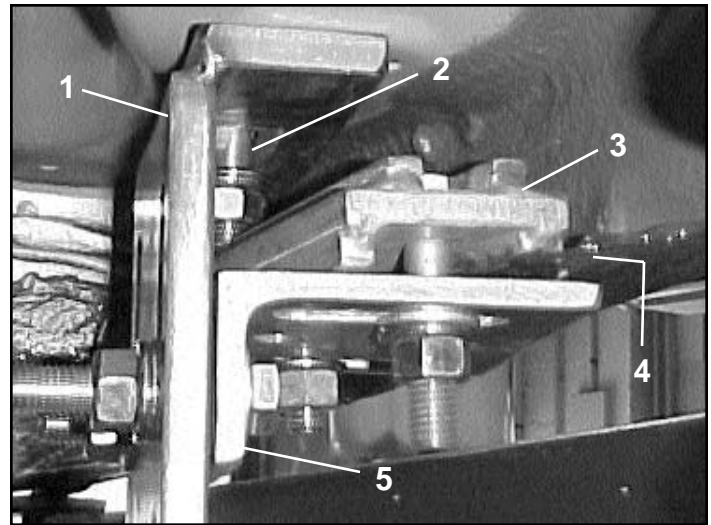

Figure 6
- b. Attach pinchweld clamp to L Bracket using 14mm bolts and nuts and 1/2 Series W washers. (See Figure 6.) Then secure the assembly to vehicle's pinchweld (flange) next to the suspended oval T-bolts. (See Figure 6.)
- c. Position right rear adapter plate against subrail on underside of rocker panel. Oval T-bolts must extend through slot in adapter plate. (See Figure 6.) Secure adapter to subrail using 12mm nuts and 1/2 ASTM washers. Then secure L bracket to adapter plate using 12mm bolts and nuts and 1/2 ASTM washers. (See Figure 6 and Figure 7.)